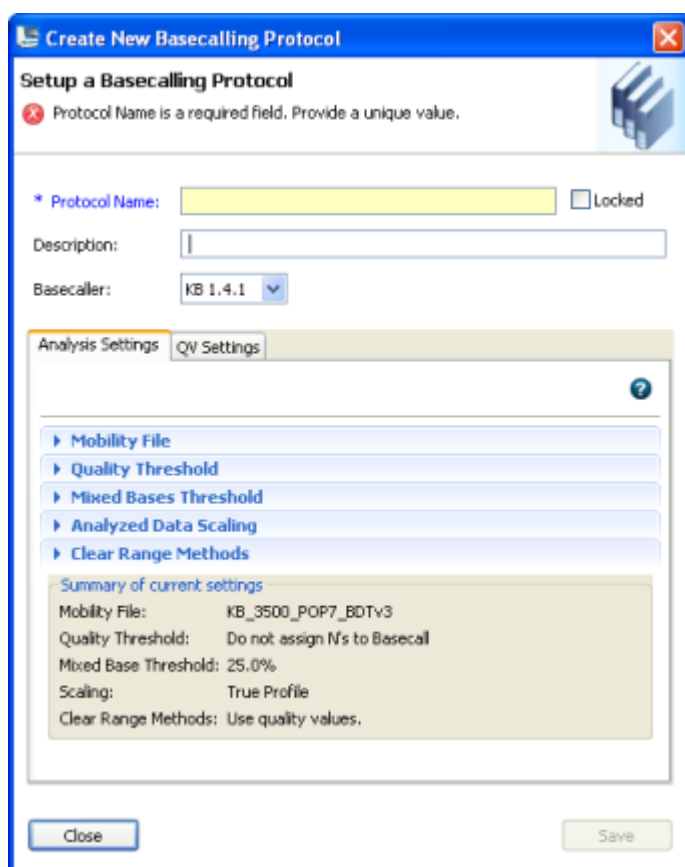

Figure 32 Create New Basecalling Protocol—Analysis Settings
3. In the Analysis Settings tab of the Create New Basecalling Protocol dialog box (Figure 32), specify settings “Basecalling protocol—Analysis settings” on page 202.